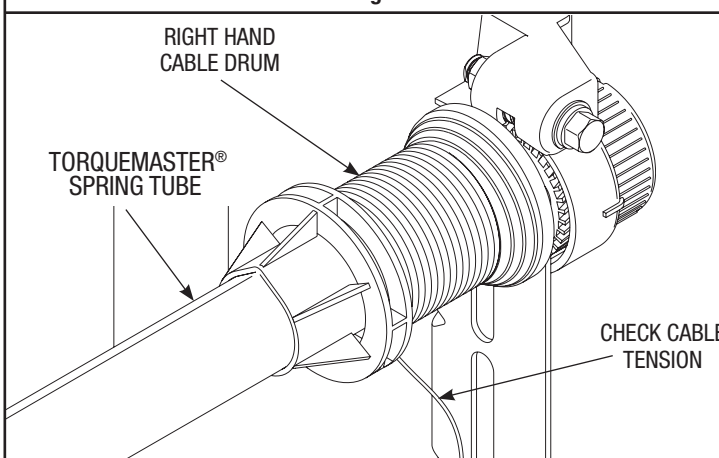

Fig. 3
Step 3: Verify that spring tension has been released by pulling the counterbalance cable on the right hand cable drum away from the header (Fig. 3). If spring tension has been released, the cable will be loose. In addition, the TorqueMaster® Spring Tube should be free to rotate in either direction.